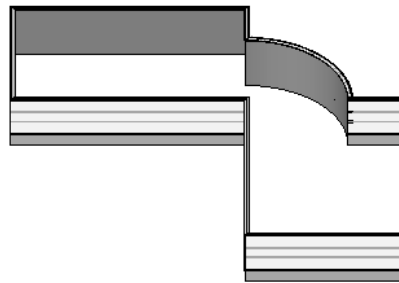

Figure 3-49 3D view of the completed exterior wall profile
5. Choose the **Default 3D View** tool from **View > Create > 3D View** drop-down; the 3D view of the building model is displayed, as shown in Figure 3-49.